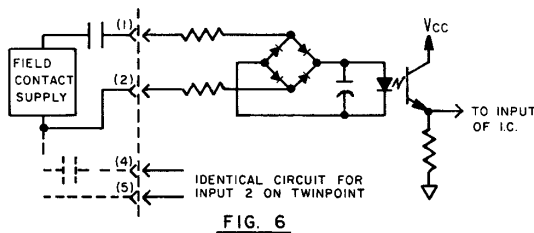

FIG. 6
3.7.6 "KN" "KP" INPUTS (See Figure 6) (KP not available on twinpoint cards)